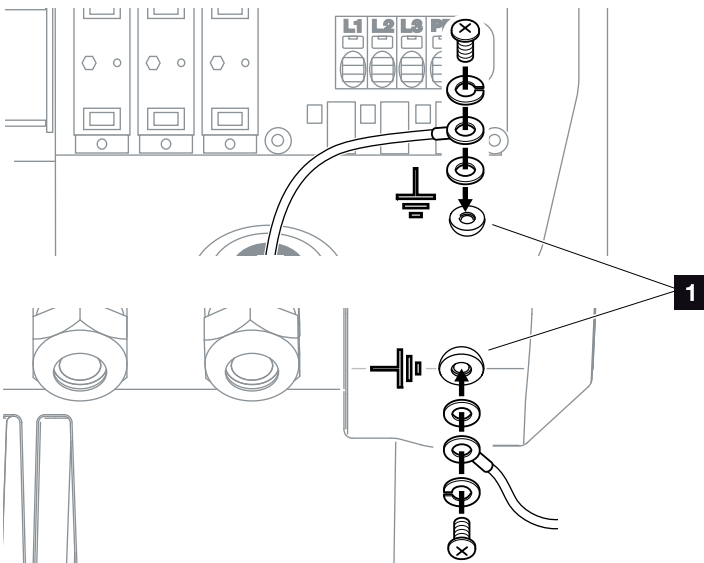

Fig. 23: Country-specific PE connection, inside / outside
9. In countries in which a second PE connection is prescribed, connect this at the marked place on the housing (inside or outside) with the prescribed torque of 3 Nm (M6).  Fig. 23, It. 1